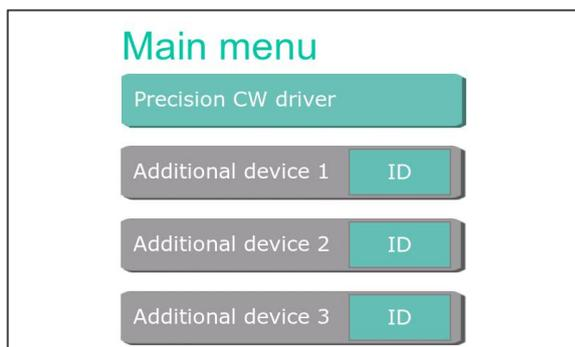

Figure 1 – Main menu
3. Select “Precision CW driver” in Main menu on touchscreen (fig. 1), you may return to the main menu by pressing button.
4. Tap the ID button in Main menu on touchscreen (fig. 1).